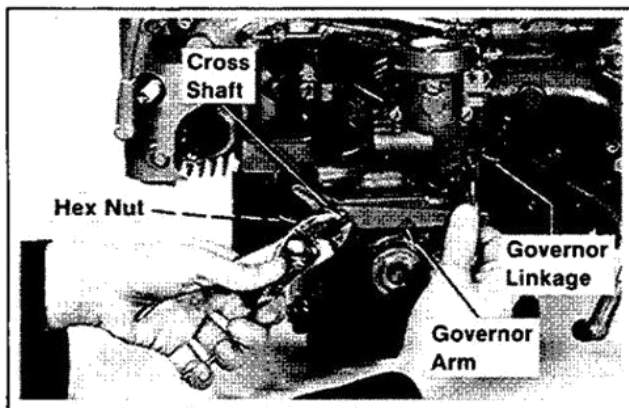

Figure 6-19. Initial Governor Adjustment.
1. Pull the governor arm down and away from the carburetor as far as it will go. Refer to Figure 6-19.